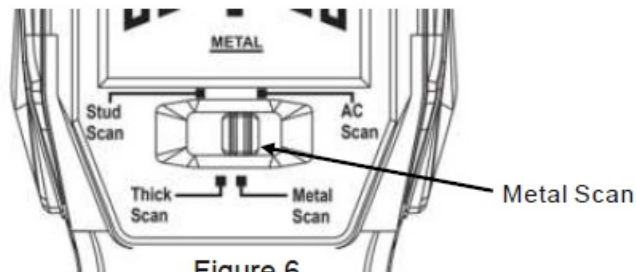

Figure 6
1. Selecting detection mode, move switch to Metal Scan (Figure 6)